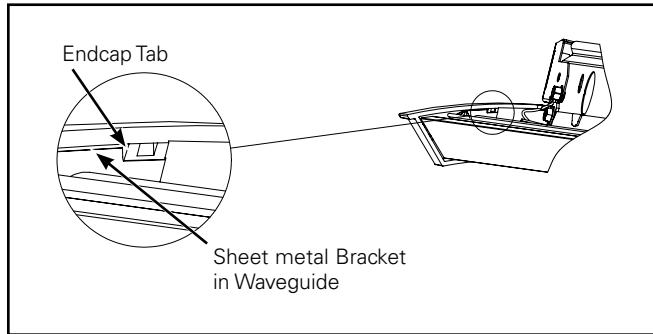

Figure 8.
8. Install Endcap to fixture. Tuck wire harnesses and safety cable while installing. Endcap tabs must fully engage in the metal bracket. (Figure 8.) Wire connection between